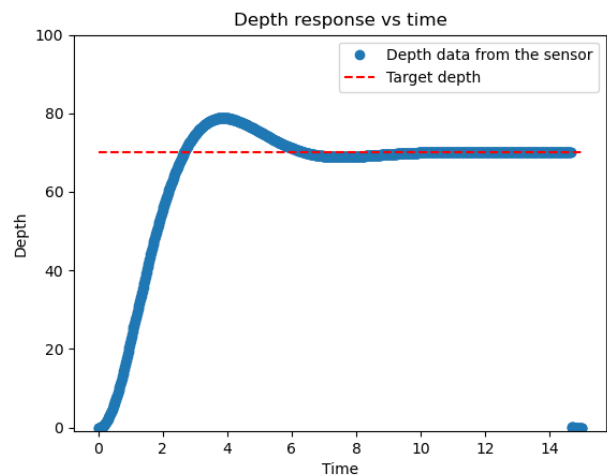

Fig. 2: Live Plotting of PID Parameters
- **PID Control:** We have implemented PID controllers for all critical movement axes, allowing for precise control over the robot's movement and ensures that it remains stable in the water. We implemented an FFT (Fast Fourier Transform) based auto-tuning algorithm to tune the PID parameters, as this is our first year using the new Vehicle. We also supplemented the algorithm with a live plotting feature, shown in figure 2, to allow for manual adjustments to the PID parameters.